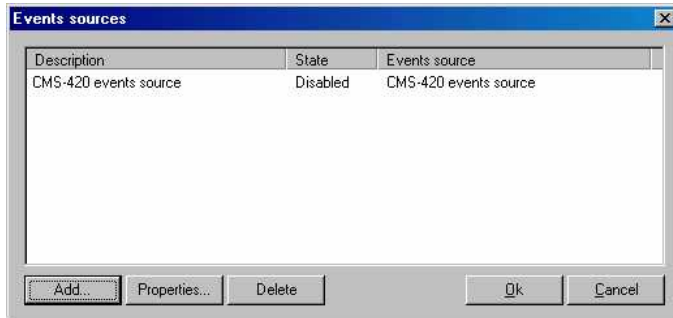

Figure 13 - Event Source configuration
- ✦ Select a User and enter a password. The Event Source configuration window is displayed (see Figure 13).